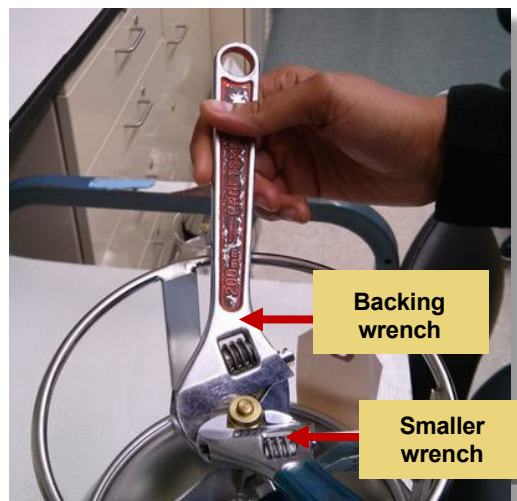

Figure 1. Removal of canister nut using two wrenches.
1. With the canister valve closed, remove the brass Swagelok cap from the canister using a backing wrench on the square valve body of the canister to hold the can valve steady while using a smaller wrench to remove the nut (Figure 1).